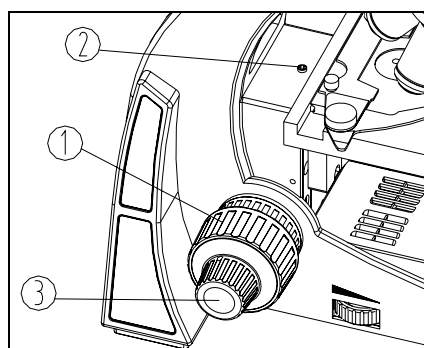

Fig.10
2. Observe the right eyepiece with the right eye. Rotate the coarse focusing knob ① until the image outline appears in the view field (See Fig.10).
3. Rotate the fine focusing knob ③ for clear details.